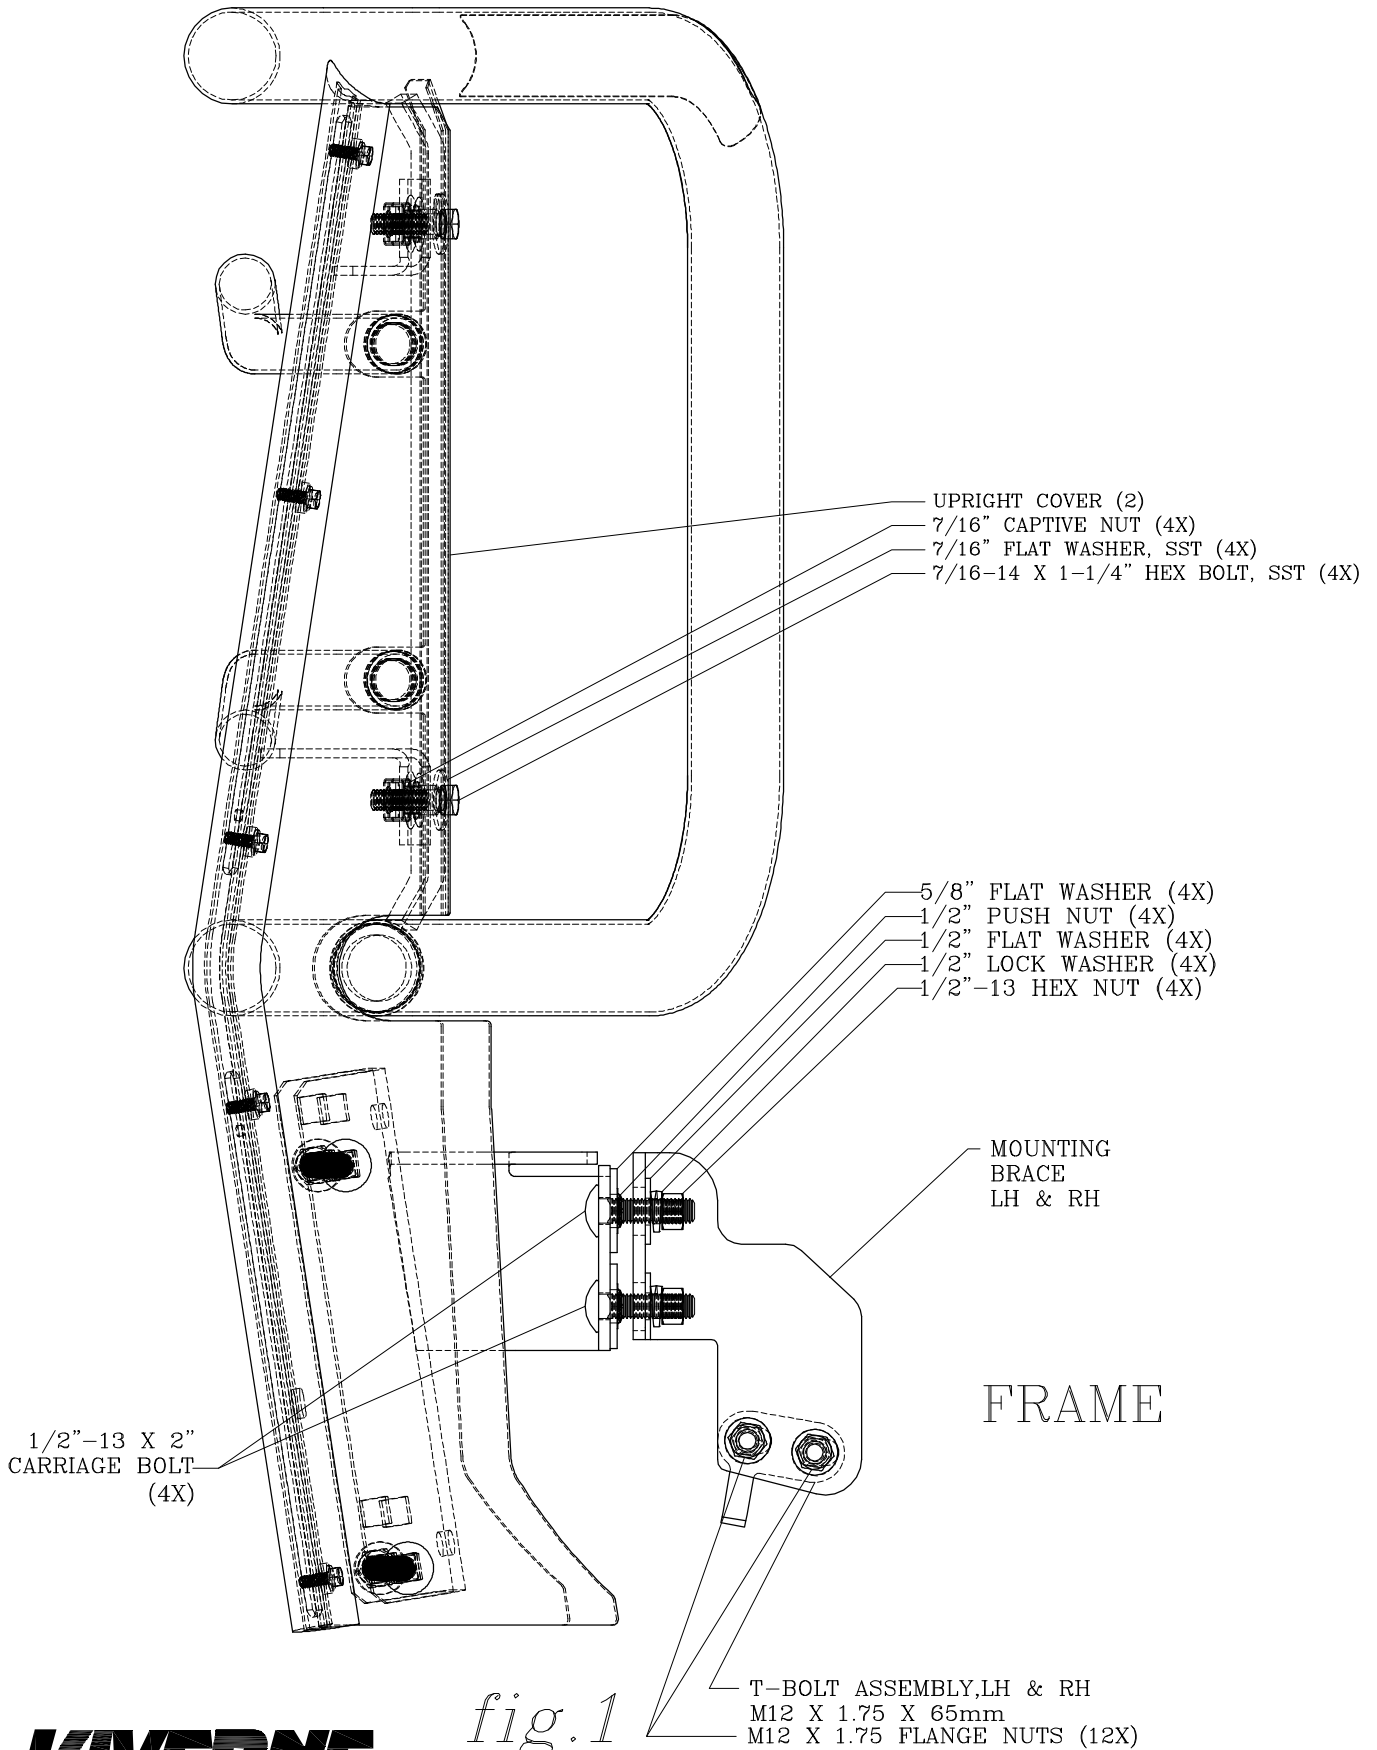

fig. 1
7. INSERT THE ASSEMBLED BRACKET INTO THE HOLES IN THE BUMPER AND FASTEN WITH 1/2" FLAT WASHERS (ITEM #24), 1/2" LOCK WASHERS (ITEM #21) AND 1/2" HEX NUTS (ITEM #18) AS SHOWN IN FIG. 1 & 2. HAND TIGHTEN ONLY AT THIS TIME.